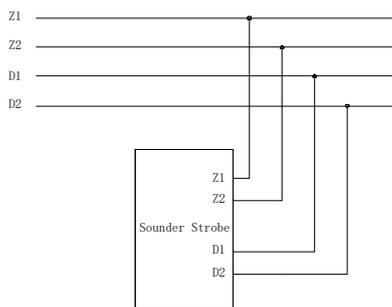

Fig. 6
- Fig. 6 shows that the sounder strobe is supplied by an external 24V power.